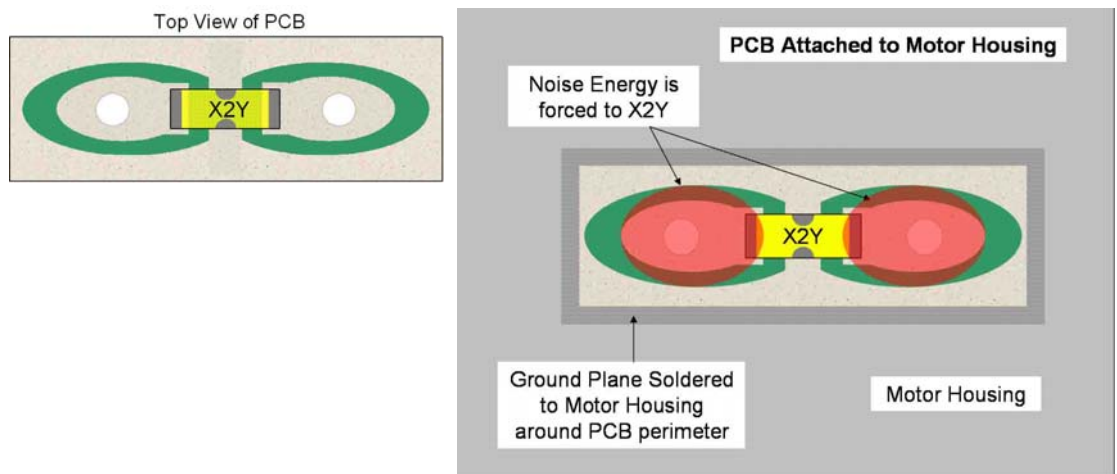

**Figure 16.** Traces to the X2Y® component should be short and wide to reduce inductance.
- ii. Traces on the brush card or PCB should be short and wide to minimize inductance (Figure 16). Parasitic inductance can impair a component's performance.